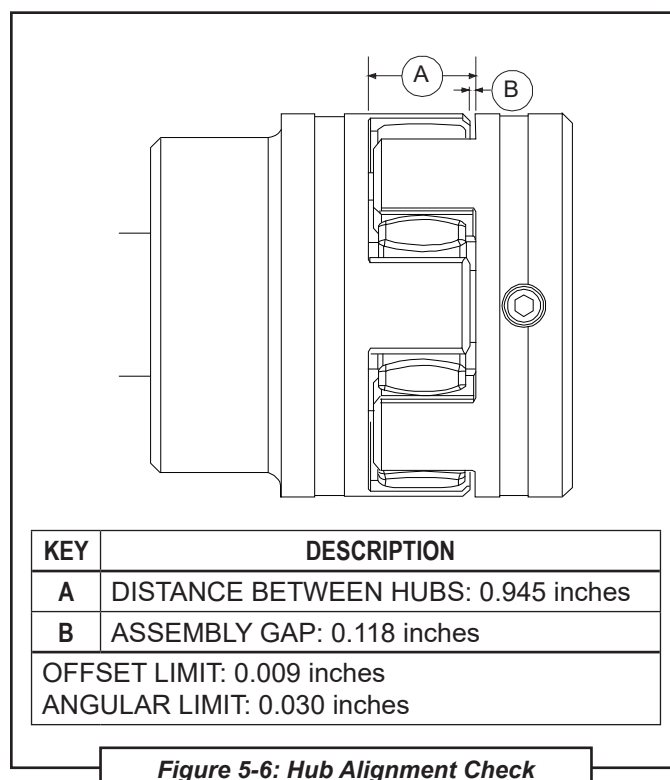

Figure 5-6: Hub Alignment Check
3. With hub properly positioned, torque clamping fastener to recommended seating torque. The manufacturer recommends using medium strength removable LOCTITE® for bore & key way setscrew. (see **Figure 5-6** for proper bore & key way setscrew seating torques).
5. Move driven and driving equipment together until proper distance between hubs is achieved (assembly gap can be used as reference when unable to measure distance between hubs. See **Figure 5-6** for proper distance between hubs and assembly gap).
Measure the assembly gap between hubs in (4) locations 90° apart the measurement range should not exceed the angular limit listed in **Figure 5-6**.
Place a straight edge square on the outer diameter of both hubs in (4) locations 90° apart; the maximum gap should not exceed the offset limit listed in **Figure 5-6**.
To ensure alignment, refer to **Figure 5-6** and the following procedure:
The maximum gap should not exceed the offset limit as given in **Figure 5-6**.